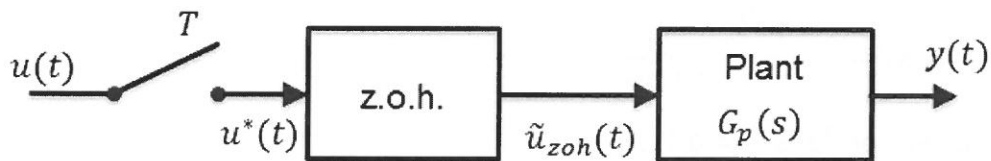
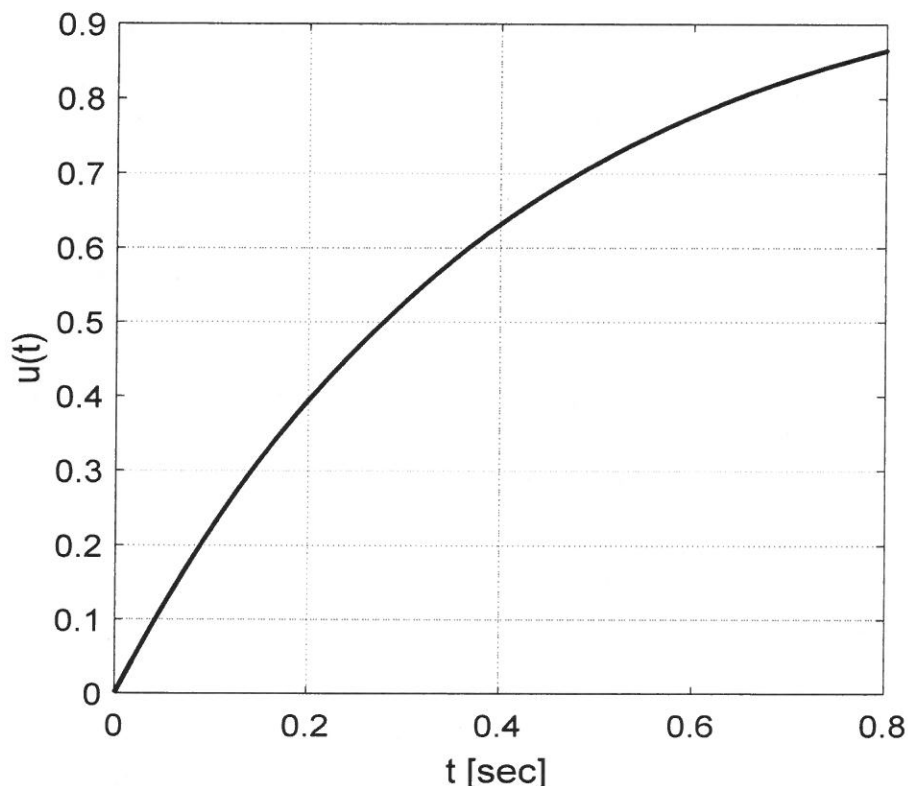

Figure 2.1: Block diagram of signal flow
Figure 2.2: Signal graph
A plant with a PT1 characteristic and a transfer function  $G_p(s) = \frac{1}{0.1s+1}$  is excited by the input signal  $\tilde{u}_{zoh}(t)$  as shown in the block diagram, figure 2.1. The digital signal  $\tilde{u}_{zoh}(t)$  is generated out of  $u(t)$  by using a sampler and a zero-order hold element. The input signal  $u(t)$  is shown in the graph, figure 2.2.
- Draw the signal  $u^*(t)$  into the graph of figure 2.2, when the sampling time of the sampler is  $T = 0.1$  s.
- Draw the signal  $\tilde{u}_{zoh}(t)$  into the graph of figure 2.2, when the sampling time of the sampler is  $T = 0.2$  s.
- Using the signal  $\tilde{u}_{zoh}(t)$  from task b), sketch the output of the plant  $y(t)$  into the graph of figure 2.2.